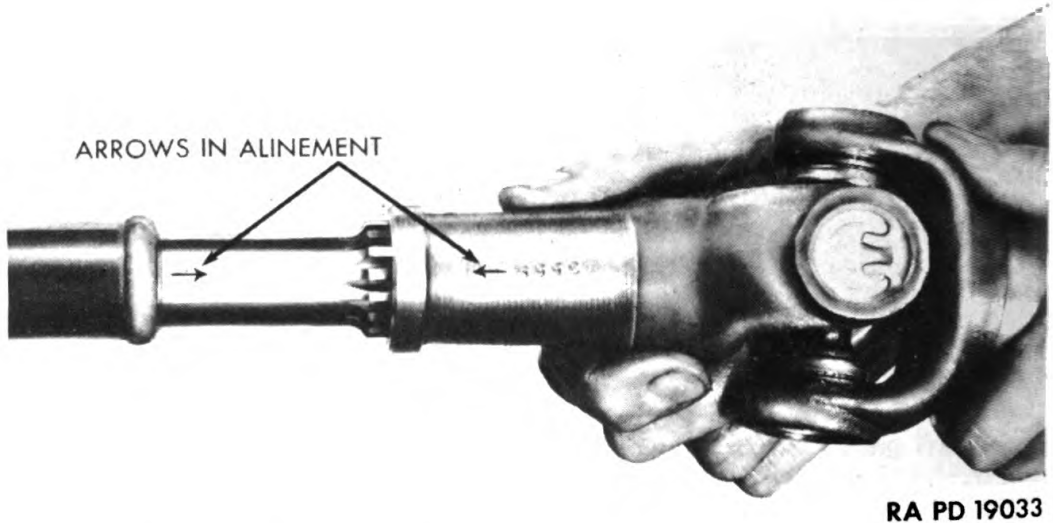

Figure 107 — Alinement of Arrows on Winch Propeller Shaft
(2) **ASSEMBLE SLIP JOINT SLEEVE YOKE OVER SPLINE OF SHAFT.** Place slip joint sleeve yoke over splines of shaft, noting that arrows on shaft and slip joint sleeve yoke are in alinement (fig. 107).